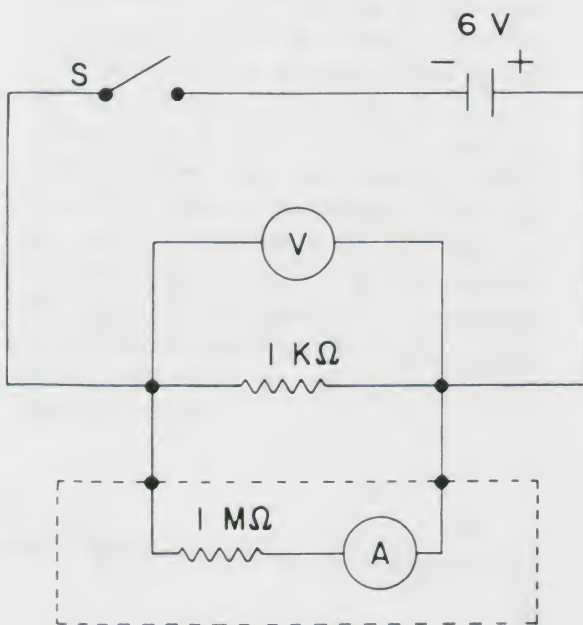

Figure 7.
Experiment A-1 is designed to give you some experience with simple circuits which are related to the operation of a multimeter. It also provides some clues on how a single meter is made to do so many different things. Figure 7 is similar to the circuit used in Experiment A-1 (4). The voltmeter is wired to measure the voltage drop across the  $1\text{-k}\Omega$  resistor, and the ammeter is measuring the current through the  $1\text{-M}\Omega$  resistor. However, you might think of the combination of the ammeter and the  $1\text{-M}\Omega$  resistor as a *single device* as indicated by the dashed box in Figure 7. The black dots could represent the *terminals* of the device.